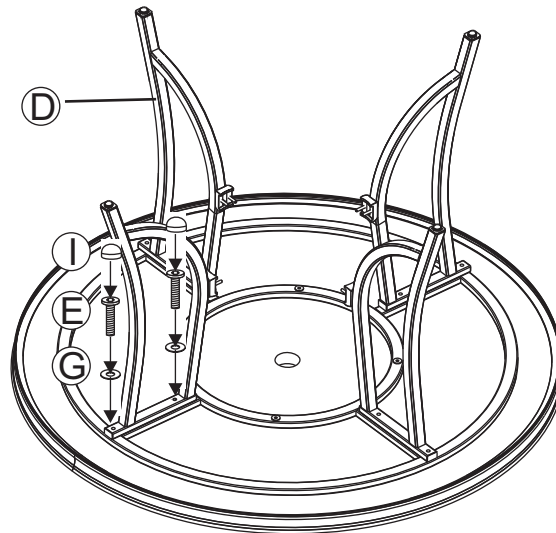

Figure 2
- 2 Attach a table leg (D) to the top connector bracket by using two bolts and $\text{Ø}6.5 \times 1.0$ mm washers as shown in **Figure 2**. **Hand tighten 2-3 turns only.** Repeat for the other legs.
- 3 Attach a table leg to the leg connector bracket by carefully guiding the bolts already in place on the table legs (each leg has two bolts) through the holes in the leg connector bracket. Add a $\text{Ø}6.5 \times 1.0$ mm washer and a nut to the end of each bolt as shown in the **Figure 2**. **Hand tighten 2-3 turns only.** Repeat on the other three legs.